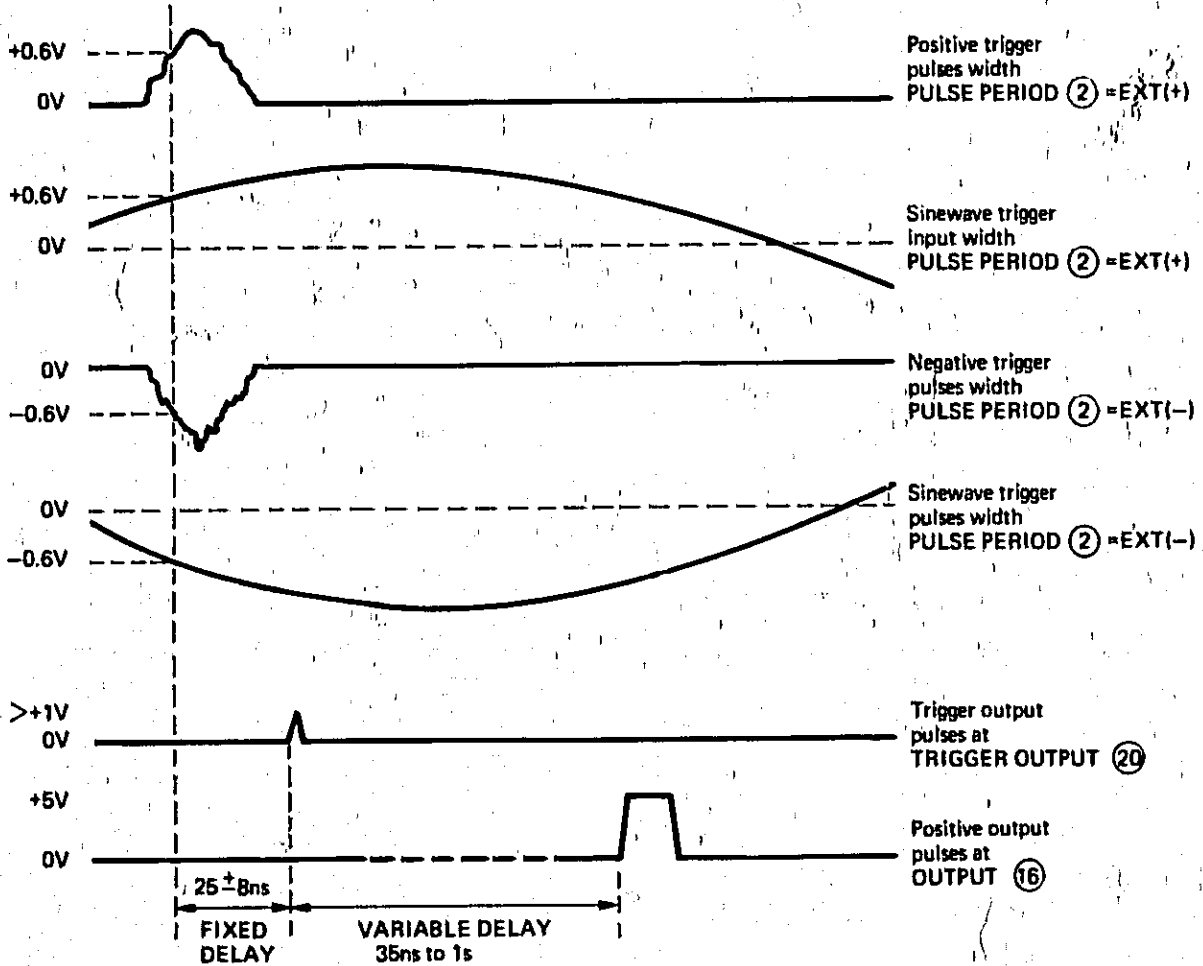

Figure 3-10. Output pulses in normal external trigger mode.
3-22 The output pulses should appear at the TRIGGER OUTPUT (20) and OUTPUT (16) connectors as shown in Figure 3-10 according to the